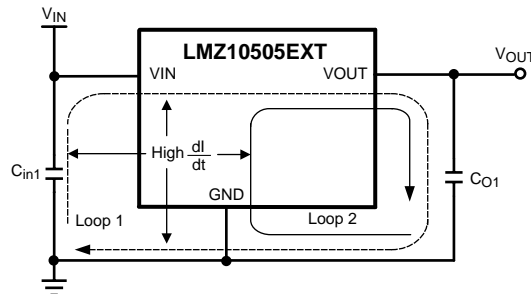

Figure 18. High Current Loops
From an EMI reduction standpoint, it is imperative to minimize the high di/dt current paths. The high current that does not overlap contains high di/dt, see Figure 18. Therefore physically place input capacitor (C_{in1}) as close as possible to the LMZ10505EXT VIN pin and GND exposed pad to avoid observable high frequency noise on the output pin. This will minimize the high di/dt area and reduce radiated EMI. Additionally, grounding for both the input and output capacitor should consist of a localized top side plane that connects to the GND exposed pad (EP).